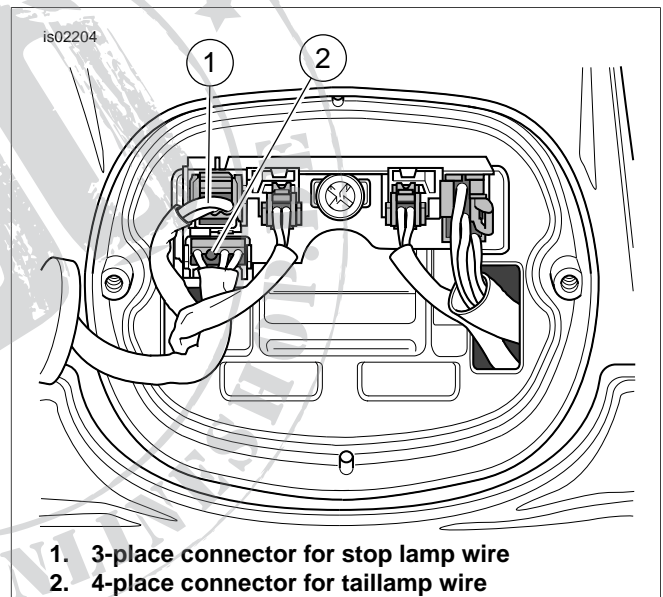

Figure 5. Taillight Assembly for 1999 and later Touring and 2000 and later Softail Models
1. See Figure 5. Remove the two screws that hold the taillight to the base, and lift the taillight away from the base to access taillight assembly circuit board as shown.